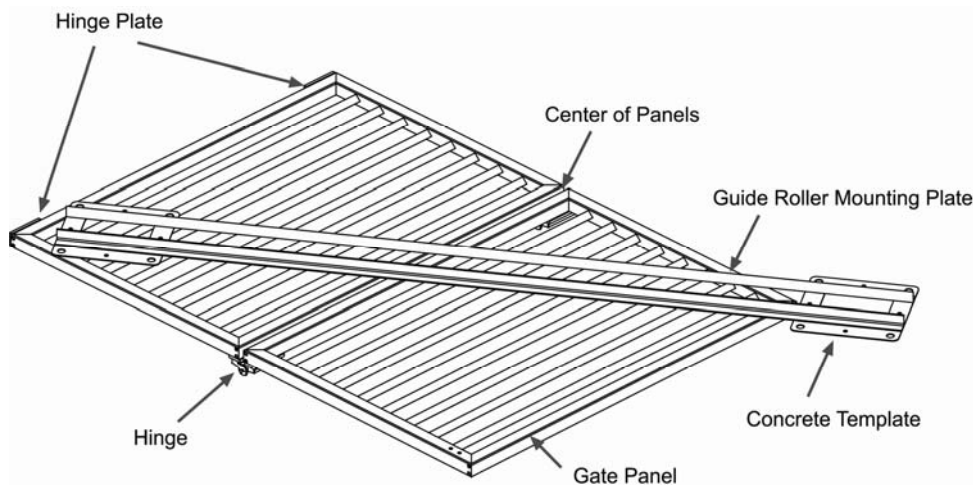

FIGURE 4.6
- Once the columns have been installed the guide channel must be installed. Using a forklift, either lift or strap the header so that it can be lifted into place (See figure 4.6). To ensure proper orientation there are 2 pieces of structural tubing that are 3" apart, they form the channel. The channel needs to be furthest away from the access doors. This allows for the guide wheel to be attached to the panel and run within the channel. Use the 1/2" bolts with washers/lock washers/nuts to secure the guide channel to the columns.
- Once the guide channel has been installed the gate panels can be installed. Determine the top of the gate panel, the top will have mounting plates with holes for the drive pin and guide wheel. Open up gate panel on the ground and lay the template used for installing the anchor bolts diagonal across the 2 panels. (See figure 4.6) One end of the anchor template should be in the bottom corner by the hinge and the other corner should stick out the top of the panel. Since you are bringing the panel in on an angle you do not have to worry about how far the template sticks out at the top. Secure the template in place with C-clamps. This will insure the panels will stay flat as you lift them in the air. Run eye to eye strap under the center of the 2 panels and up and through the second hinge from the top. Then noose it over the top hinge. This will allow for movement when it is secured to the column. You will need the provided 1/2" socket cap bolts. It is important to get the topmost hinge bolts installed and hand tightened before the subsequent hinge bolts are installed. Once you have all hinge bolts in hand tight, tighten them to 85lbs.